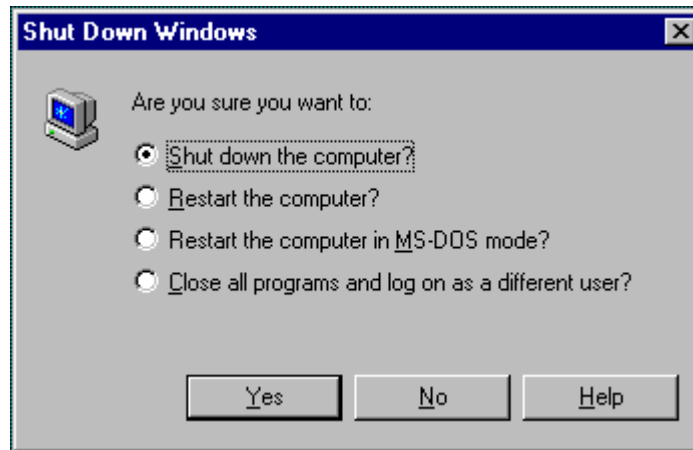

Figure 9 Shut Down Windows
- Click **Start** and then **Shut down**. Windows 98 will display a box similar to that shown in Figure 9.